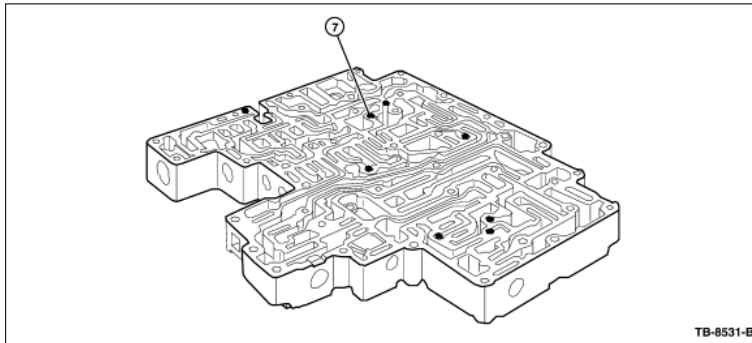

Figure 1 - Article 09-20-14
- a. If TCC % = 0 and TC SLIP ACT = less than 20 RPM then inspect the number 7 check ball in the main control valve body for damage. Replace as required following the appropriate Workshop Manual (WSM) under Disassembly and Assembly of Subassemblies - Main Control Valve Body. (Figure 1)